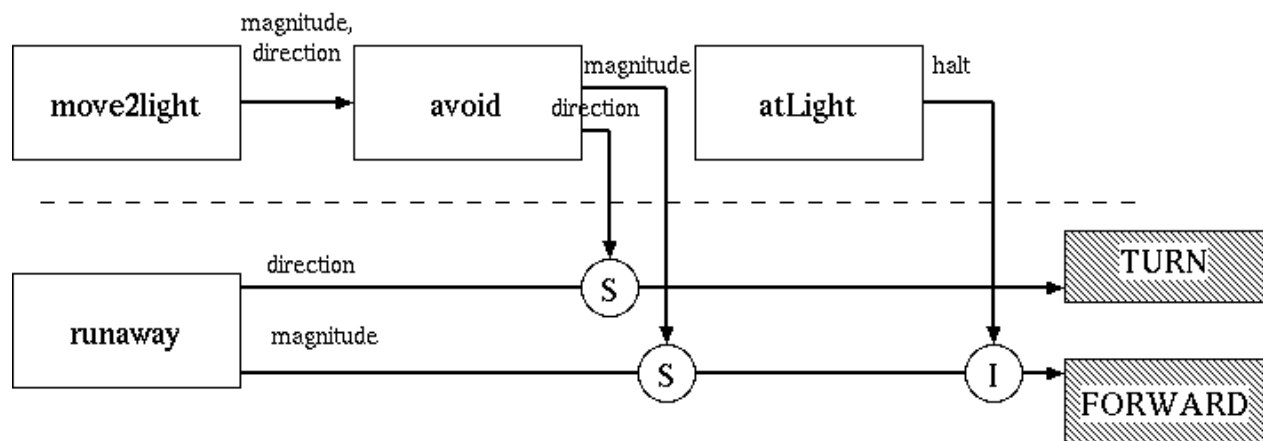

Figure 6: Sample Photophilic Architecture
2. Similar to the prior 2 labs, Layer 0 of the architecture should be obstacle avoidance. The robot should move with respect to the sensorimotor connections with respect to the light source while also avoiding obstacles. If the robot does not detect a light source or an obstacle then it should remain still (see Figure 6).